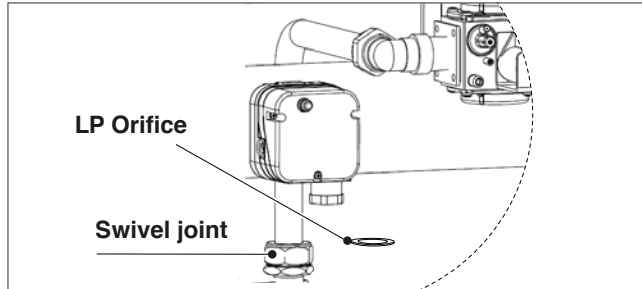

Fig. 27 Natural Gas to LP Gas Conversion
- Unscrew the swivel joint indicated in Fig. 27 to separate the valve from the connection pipe with the fan
Place the provided metal orifice (Fig. 27) below the existing gasket.